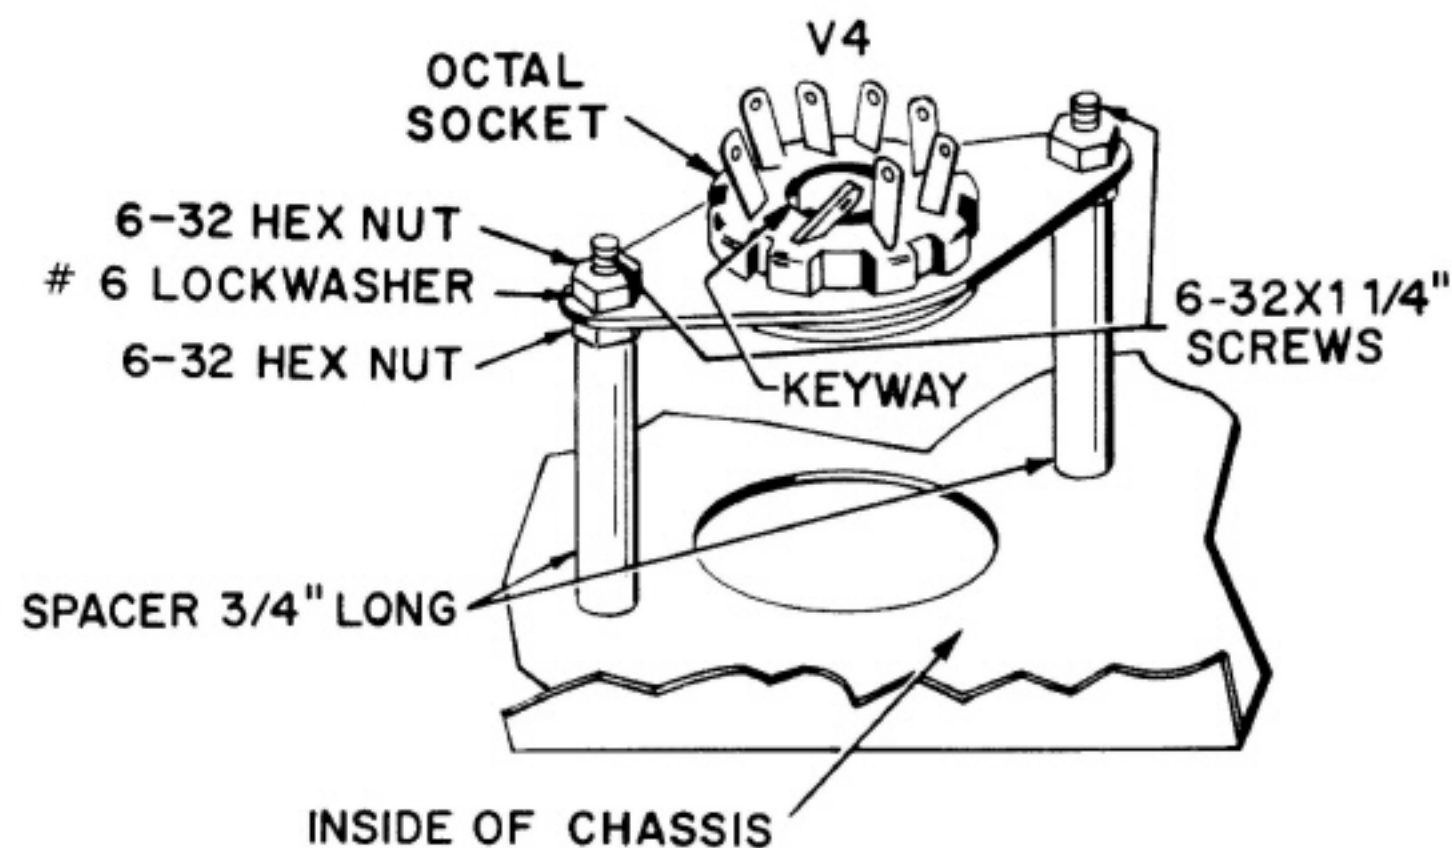

FIGURE 3
- ☐ 8-pin tube socket for V4 (largest socket) and two  $\frac{3}{4}$ " spacers. See Figure 3. From the top of the chassis, insert a  $6-32 \times 1\frac{1}{4}$ " screw through each of the mounting holes. Place a  $\frac{3}{4}$ " spacer and a nut over each of the screws. Then place the tube socket over the screws so the keyway points toward the back of the chassis. Loosely fasten with two #6 lockwashers and nuts.